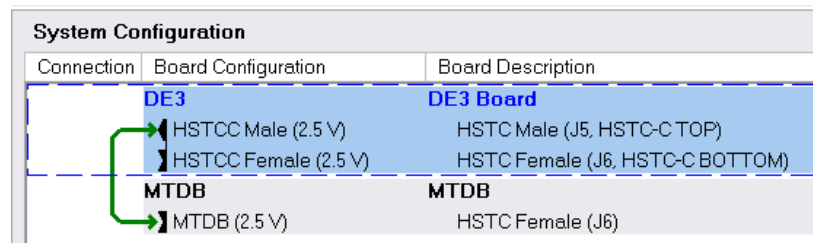

Figure 4.15. The connection between DE3 board and MTDB board
- ii. After the connection is established, the DE3 System Builder will change the I/O standard of the connector to fit with the daughter board automatically as shown in Figure 4.15. The I/O standard of the **HSTCC male** connector has been changed from 3.3-V LVTTTL to 2.5V.